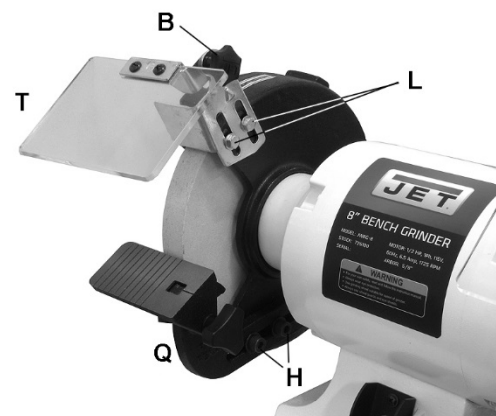

Figure 8: Eye Shield and Tool Rest Adjustment
1. Loosen lock knob (B, Figure 8).
2. Adjust eye shield (T) to desired tilt angle.
3. Tighten lock knob (B).
1. Loosen two hex cap screws (L, Figure 8) with a 10mm wrench.
3. Tighten screws (L).
1. Loosen two hex cap screws (H, Figure 8) with a 12mm wrench.
2. Slide tool rest bracket (Q) as needed.
3. Tighten screws (H).